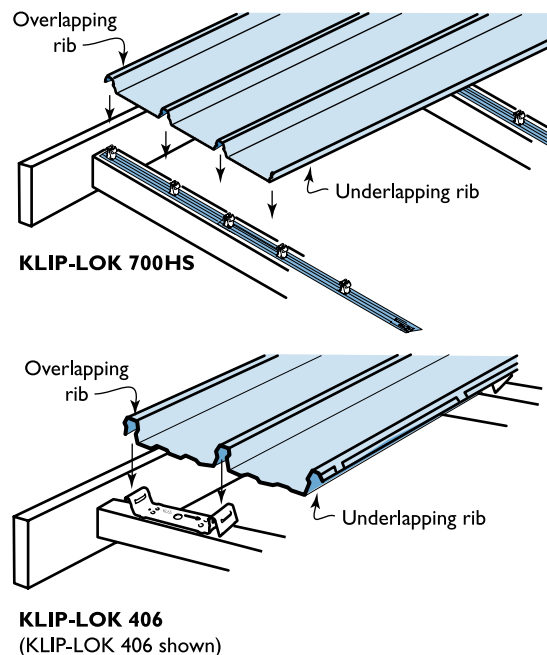

Figure 9.1.3
- orient the sheets before lifting. Note the overlapping rib is towards the end of the building where you start (Figure 9.1.3);
1. Locate the first sheet over the fixed clips (Figure 9.1.3).